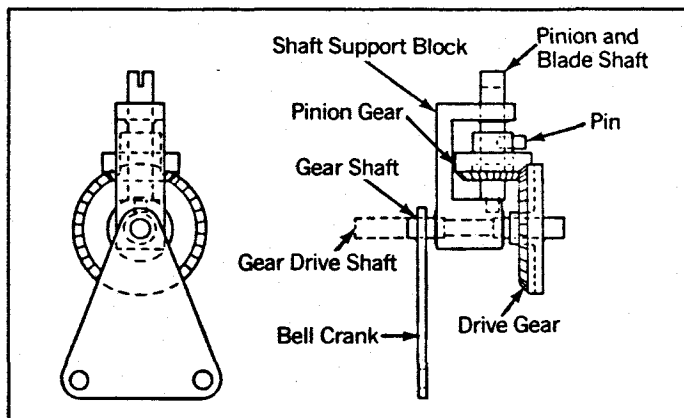

Figure 4 Coarser gear.
1. Replace existing spin vane drive gears with new (coarse) design (Figure 4). This will minimize fly ash problem.